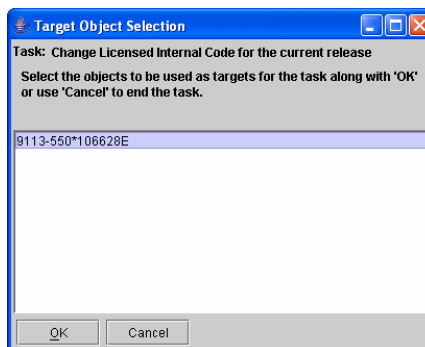

Figure 37 Select the target system
2. Select the target system (see Figure 37) and click **OK**.